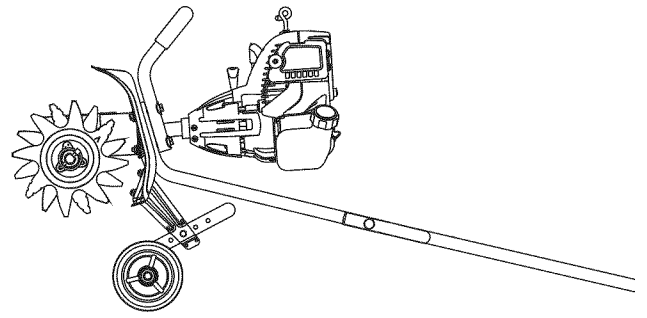

Fig. 11
2. **Set the unit on a flat, level surface**, with the handles touching the ground, so that the engine is level (Fig. 11).